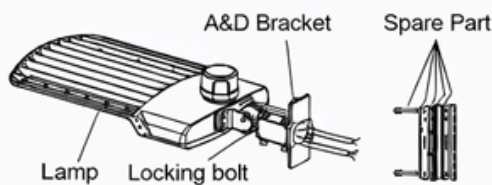

Figure 13
Step 1: Remove the spare part from ADM bracket. (Figure 13).